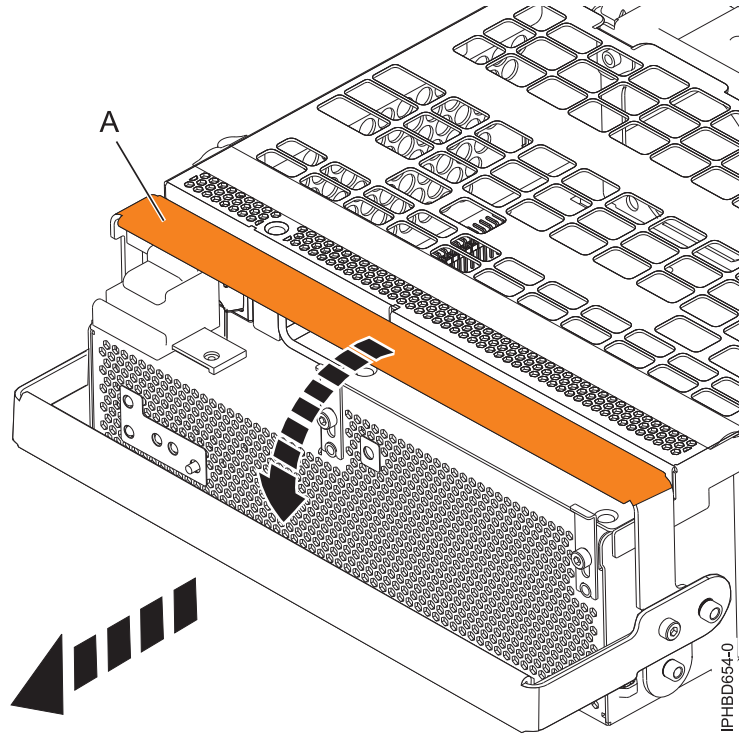

Figure 59. Removing a power supply
10. Rotate the power-supply locking handle (A) to the open position as shown in Figure 59 on page 73. Pull the power supply out of the expansion unit.